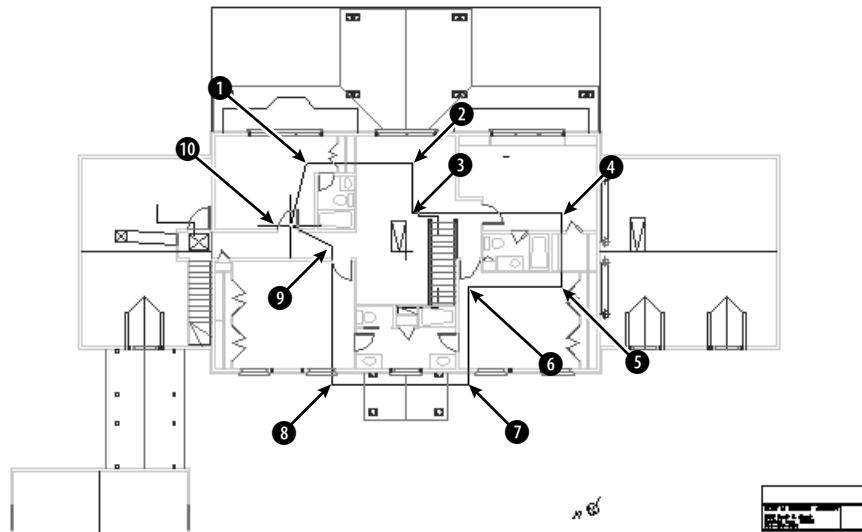

Figure 19-11: Picking a polygonal boundary to clip an xref.
5. Open ab19-02.dwg from your AutoCAD Bible folder. This drawing has an attached xref of a house plan and a nested xref of a title block, as shown in Figure 19-11.
Select objects: *Pick anywhere on the xref in Figure 19-11.*
Specify first point: *Pick 1 in Figure 19-11. It might help to turn off OSNAP if it is on.*